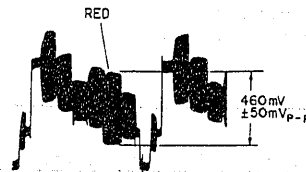

Fig. 4-10
(11) Chroma Level Adjustment (Figs. 4-10, 4-51)